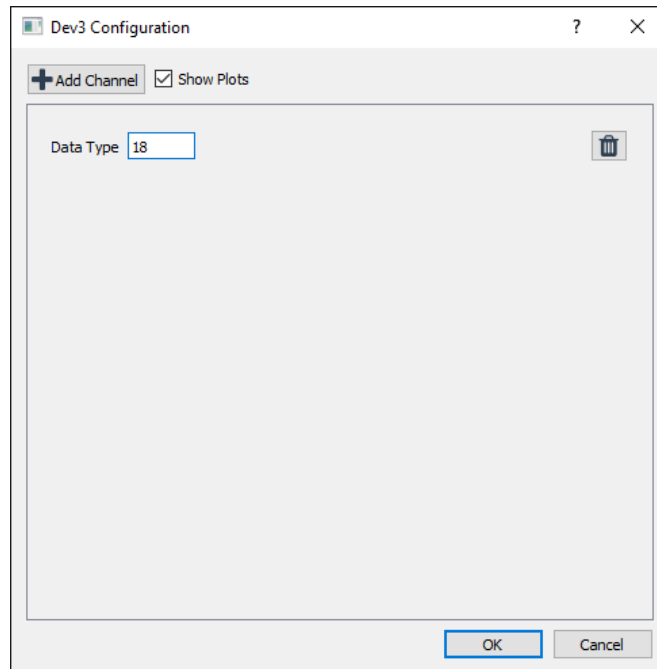

Figure 5 (Sensor Pop Up)
10. At this point magnetometer data will appear on channel 18. To turn on a channel click on the “Dev0” box under Sensor Config and the following pop up (Figure 5) will show. Type the channel number (found in the channel list section) and hit “OK”: